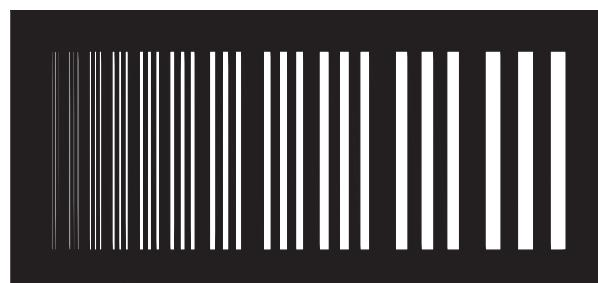
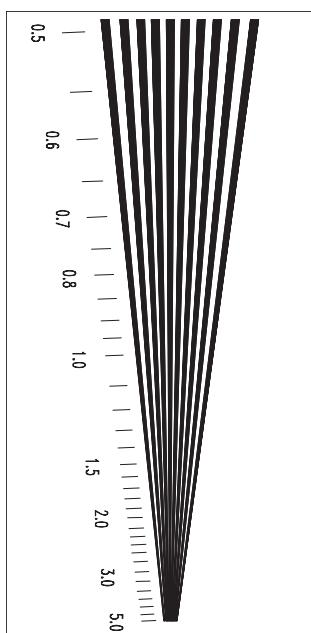

Fig B-3. A typical line pair gauge, 0.5 to 5.0 LP/mm
Fig B-4. Convergence style line pair gauge, 0.5 to 5.0 LP/mm
Two versions are shown. Fig B-3 has individual groups, of line-pairs. These are arranged in ten steps, 0.5 LP/mm to 5.0 LP/mm. Fig B-4 has lines converging to a point. Calibration marks are provided to indicate the equivalent line-pair resolution.
Many other versions are available. The type of pattern and material used depends on the specific test required. Common types are similar to fig B-3, or B-4. The line-pair pattern is made from 0.1 mm lead for normal use.
- To avoid interaction with grid lines, attach the gauge (Fig B-3) so it is rotated approximately 25~45 degrees. (On some CCD TV cameras, this also avoids interaction between pixels.)